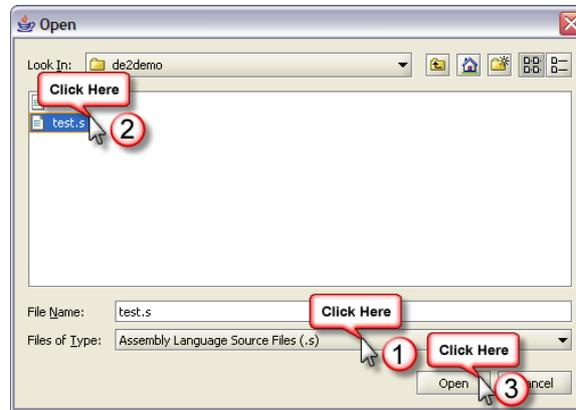

Figure 9: Open File Dialog Box.
2. Next, click on the **Compile & Load** button. A dialog box, shown in Figure 9, will appear. Select the directory that contains your application source file using the **Look In:** drop down list. Note that some sample applications are included on the DE2 CD.